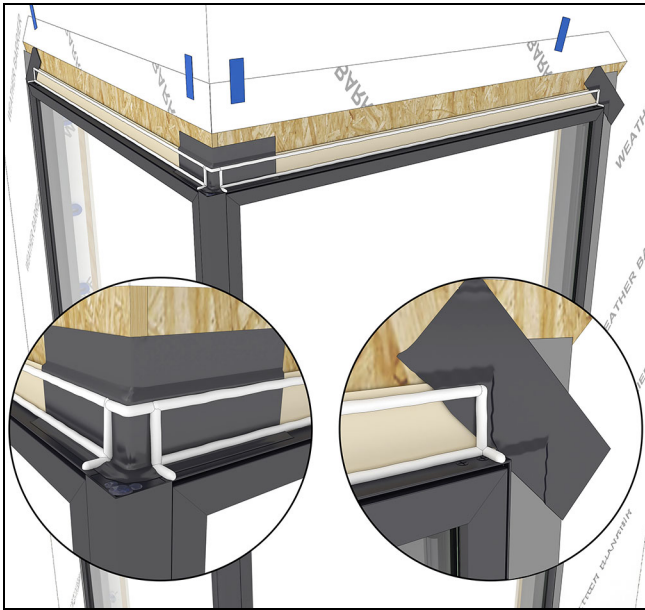

Figure 75
3. Apply pieces of adhesive flashing at the outside corners to cover the nailing fin and at the corner as shown. Lap the flashing onto the frame by at least 1/4". See Figure 75.
10. Apply a continuous bead of sealant to the vertical surface above the head jamb (located behind where the head jamb flashing will be applied). Apply another bead on top of the head jamb as shown. See Figure 75.